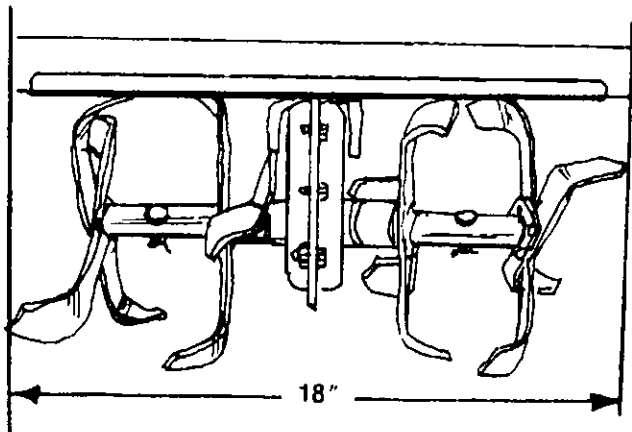

FIGURE 15.
1. Standard tilling width is 18 inches See figure 15